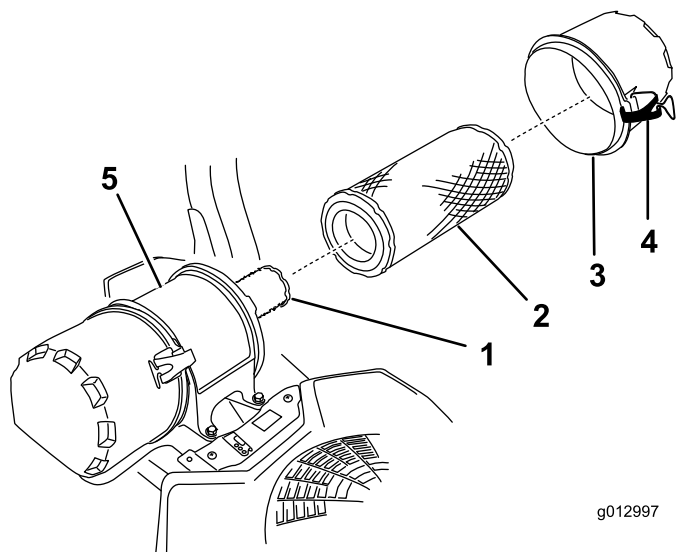

Figure 49
6. Release the latches on the air cleaner and pull the air-cleaner cover off the air-cleaner body (Figure 49).
8. Gently slide the primary filter out of the air-cleaner body (Figure 49).
2. If the inner filter is being replaced, carefully slide it into the filter body (Figure 49).
3. Carefully slide the primary filter over the inner filter (Figure 49).
4. Install the air-cleaner cover and secure the latches (Figure 49).